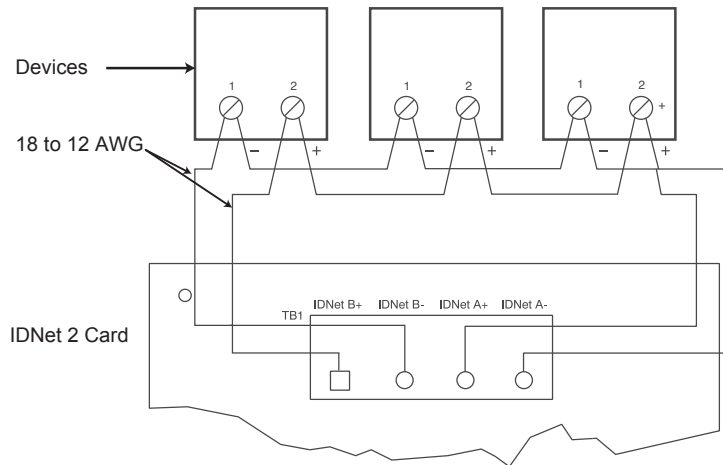

Figure 7: IDNet Loop Class A Wiring
- Route wiring from the first device to the next as in/out. See Figure 7. Repeat for each device.